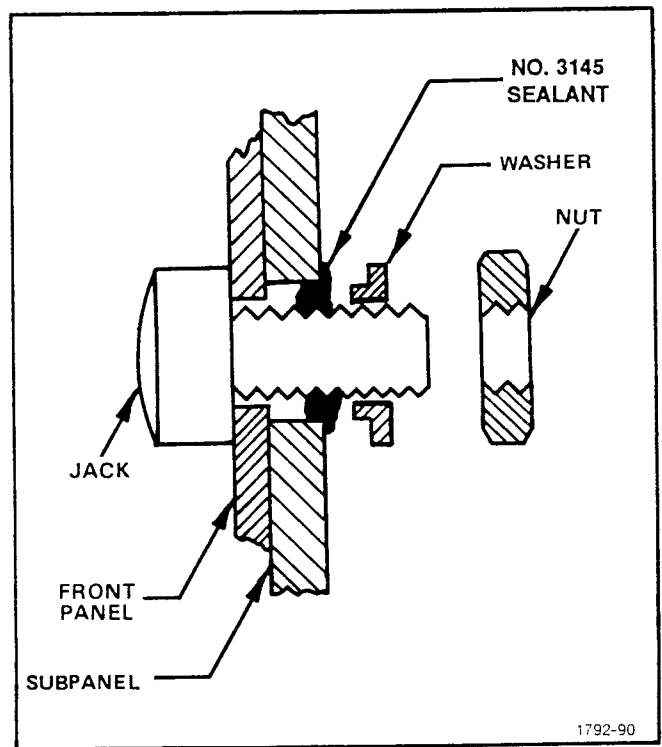

Fig. 5-37. X-Y Module Front Panel Jacks
Panel, MPL 3-13; Subpanel, MPL 3-14; Jack Tip, Black (3 ea), MPL 3-5; Jack Tip, Red (3 ea), MPL 3-6. See Figure 5-37.
- c. Apply No. 3145 sealant to jack/subpanel interface per Figure 5-37.